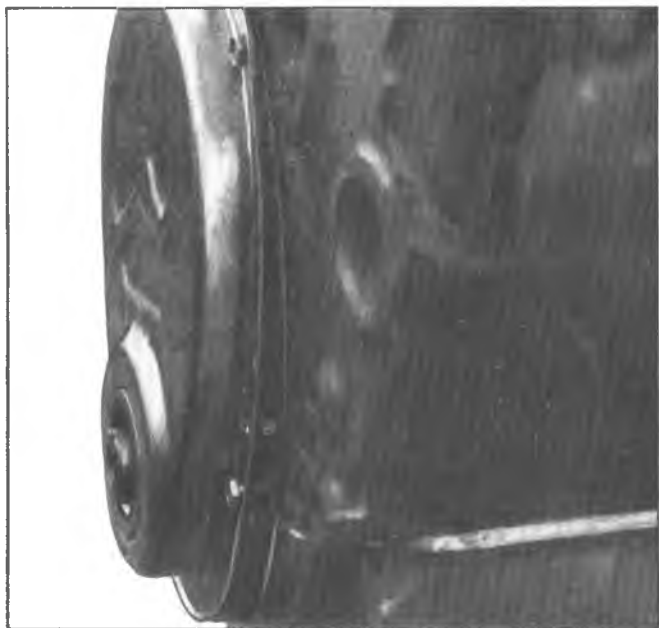

Fig. 2R—Installing Front Cover and Seal
**NOTE:** Insert the top four bolts loosely (approximately 3 turns). Install two 1/4-20 x 1/2" screws one on each side at the lower hole in the front cover. Apply a bead of silicone sealer on the bottom of the seal and install on cover (fig. 2R).